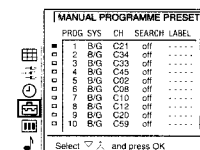

Fig. 7
- Select »Manual Programme Preset« with Δ or ∇ — and press OK. The MANUAL PROGRAMME PRESET menu appears. (See Fig. 7.)